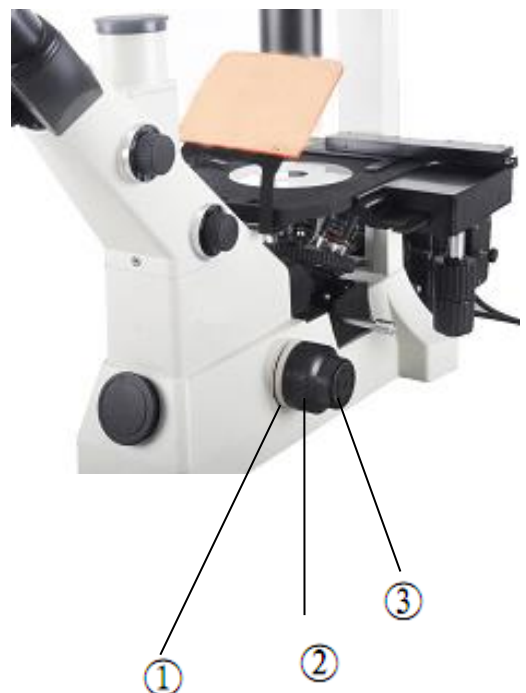

Fig.22
4-1-3 Adjusting the tension of the coarse adjustment knob (Fig.22)
If the nosepiece dropped automatically, or the specimen defocused soon even you focus with the fine focus knob ③. It means the coarse focus knob is too loose, you should screw it down at the direction shown by the arrowhead in the Fig.22.